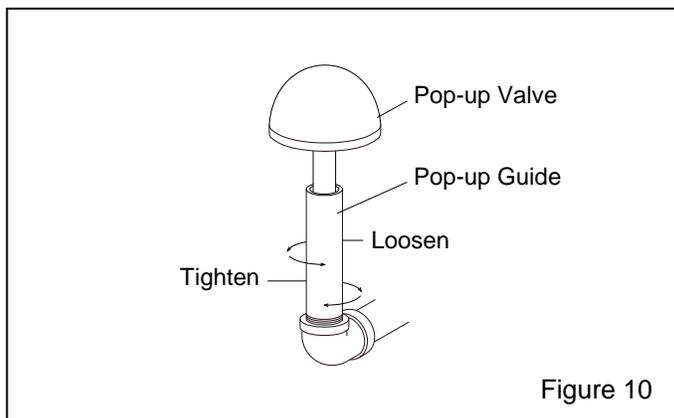

Figure 10
6.4 Pop-up Valve Replacement, Figure 10